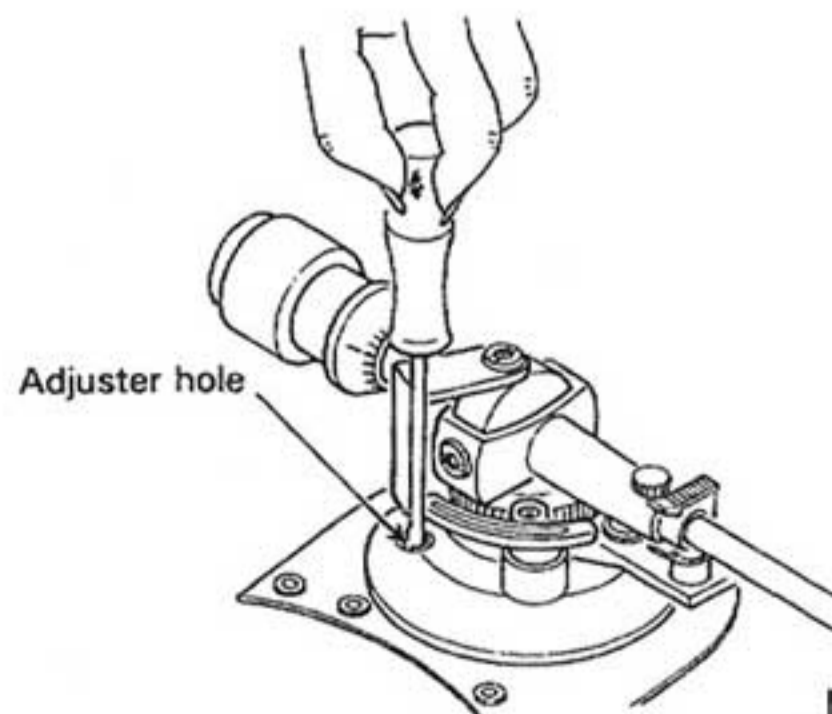

Fig. 21
6. Place the stylus at the auto-up position (53 mm radius from the axis of the turntable spindle). Connect a voltmeter between TP-4 (negative) and TP-1 (positive), and adjust the adjuster (see Fig. 21) so that the reading is 2.8-3.0 V.